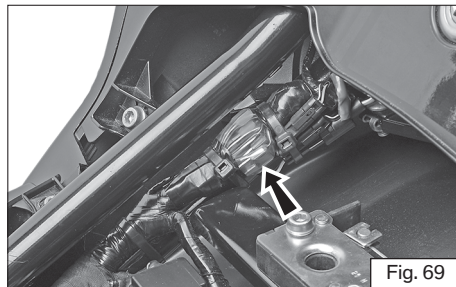

Fig. 69
- ♦ Spare fuse for the each of the fuse is located inside the fuse box (A) and as well as in the wiring harness (B) below the seat latch of pillion seat (ref. Fig. 69).